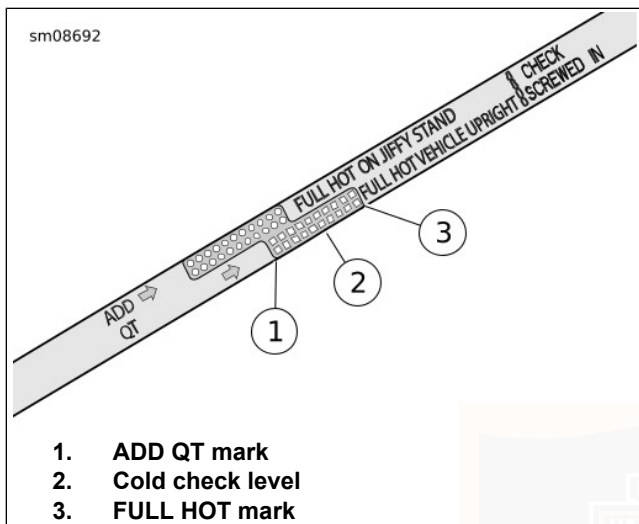

Figure 84. Engine Oil Dipstick (VEHICLE UPRIGHT Gauge)
- e. See Figure 84. Check oil level. The correct cold oil level is midway (2) between the ADD QT (1) and FULL HOT (3) marks on the dipstick.
5. Check oil level. Add only enough to bring level midway between the ADD QT (1) and FULL HOT (3).
- e. See Figure 84. Check oil level. Oil level must register between the ADD QT and FULL HOT marks on the dipstick.